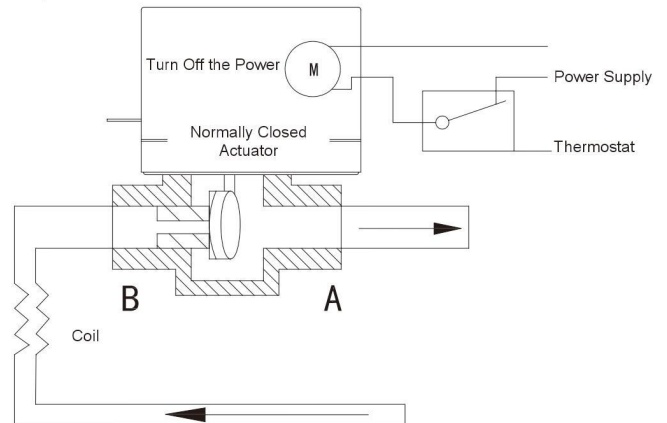

Figure 2: Normally Closed Two-way Valve
- The flow direction of normally closed two-way valve should be from B to A, as illustrated in Figure 2.